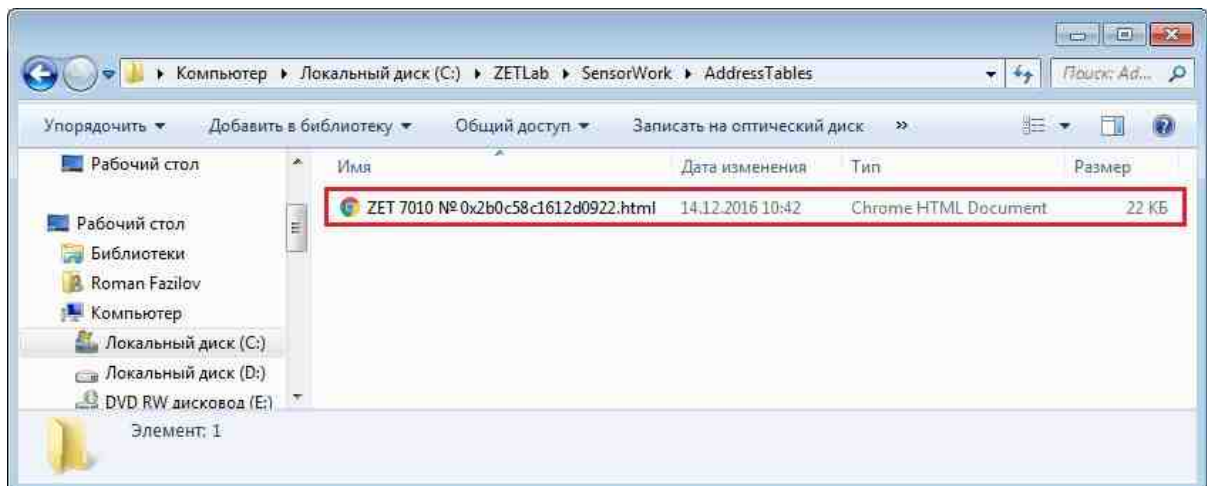

Fig.9.2 File created by the "Save address (node)" command
1. After executing the "Save address (node)" command, the folder located in the directory: C:\ZETLab\SensorWork\AddressTables will open, in which a file with the extension ".html" will be created for this device (Fig.9.2).